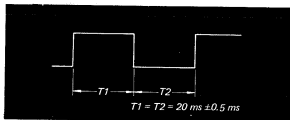

Fig. 7-2.
2. Adjust R129 so that intervals T1 and T2 are 20 msec  $\pm 0.2$  msec as shown in Fig. 7-2.